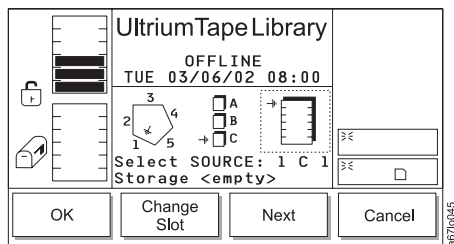

Figure 4-66. Change Slot Dialog
- b. Press the button below the **Change Magazine** softkey until the arrow in the middle icon points to the magazine that you want. Press the **Next** softkey. The Change Slot Dialog displays (see Figure 4-66).